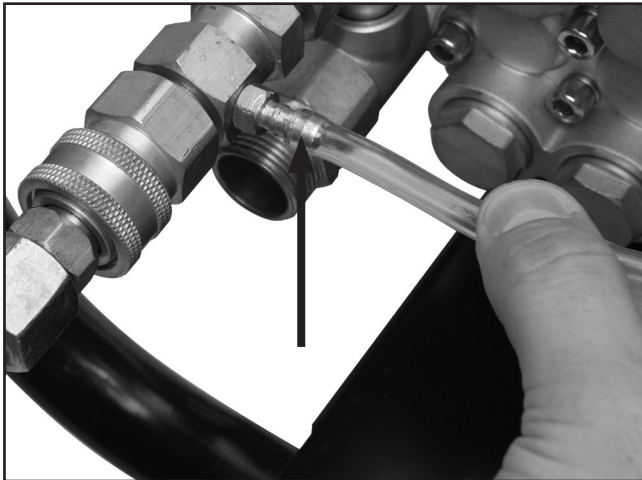

Figure 10. Chemical hose attached to barbed fitting.
1. Push the chemical hose onto the barbed fitting located near the pump output port, as shown in **Figure 10**.